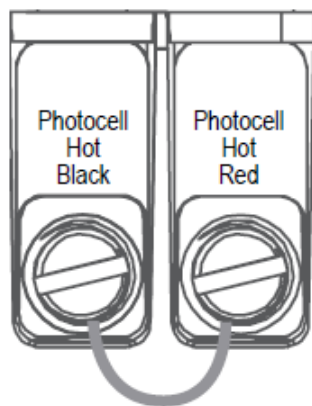

Figure 2: Jumper wire
3. Lift the plastic panel (steel panel for PX-150) up to keep it out of the way. Important: Remove the red jumper wire located between the #9 & #10 terminal block positions (Figure 2).